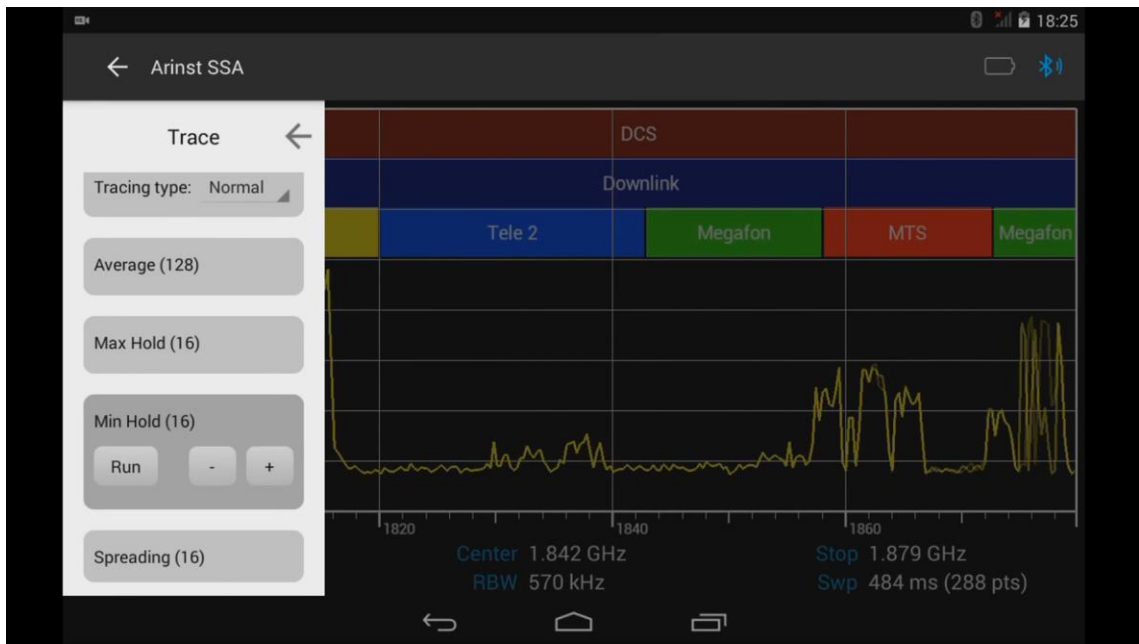

Figure 59 – Setting the number of scans for displaying minimum
8.9.8. **Min Hold** mode allows you to display the minimum measurement results for multiple scans. Use the "-" and "+" buttons to set the required number of scans (in the range from 4 to ∞) and click the **Run** command, Figure 59. The minimum averaged measurement will be displayed on the tablet / smartphone screen with a green graph.